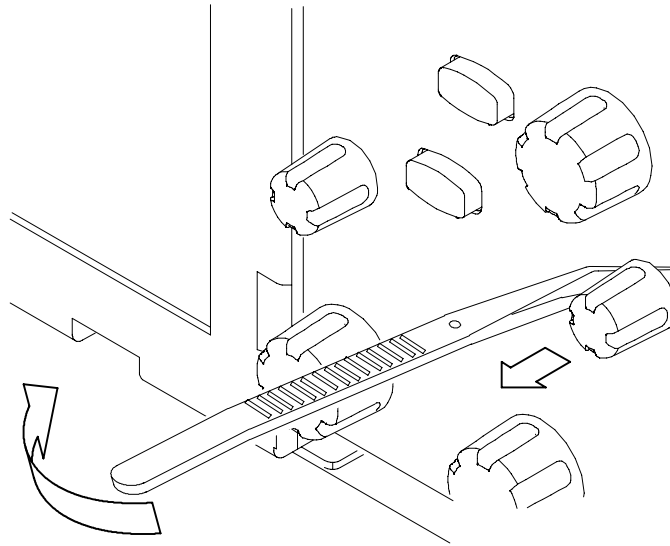

Figure 1: Knob removal
3. *Remove the knob(s):* Grasp any knob you want to remove and pull it straight out from the front panel $\frac{1}{4}$ inch to create some clearance between the base of the knob and the front panel. Insert the angled-tip tweezers between the knob and front panel and use them to remove the knob. See Figure 1.